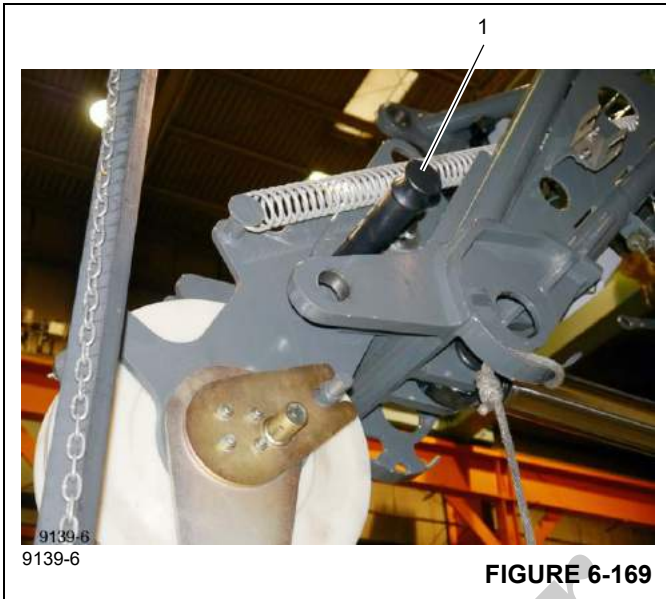

FIGURE 6-169
4. Remove the retaining clip and pin (1), (Figure 6-169).
17. Secure the sheave with the pin (1), (Figure 6-169). Secure the pin with the retaining clip.
- 4. Remove the retaining clip and pin (1), (Figure 6-169).